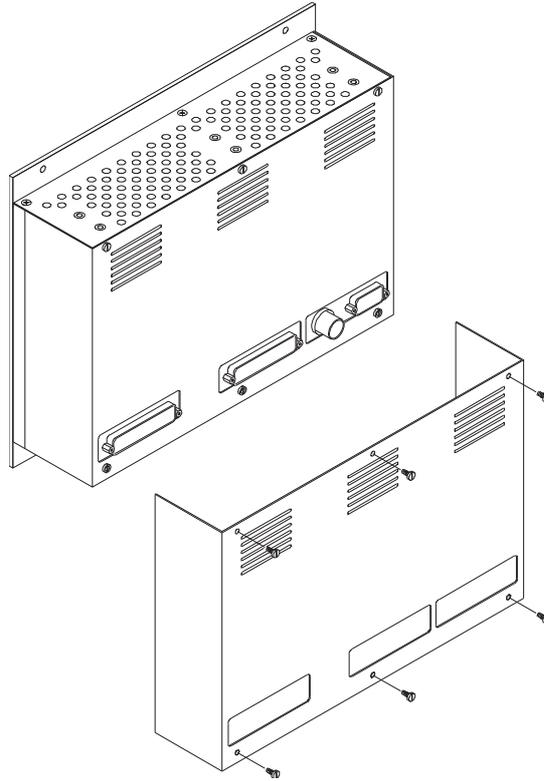

Fig. E 8-23: Reinstalling the rear cover
17. Reinstall rear cover with six screws (Fig. E 8-23).